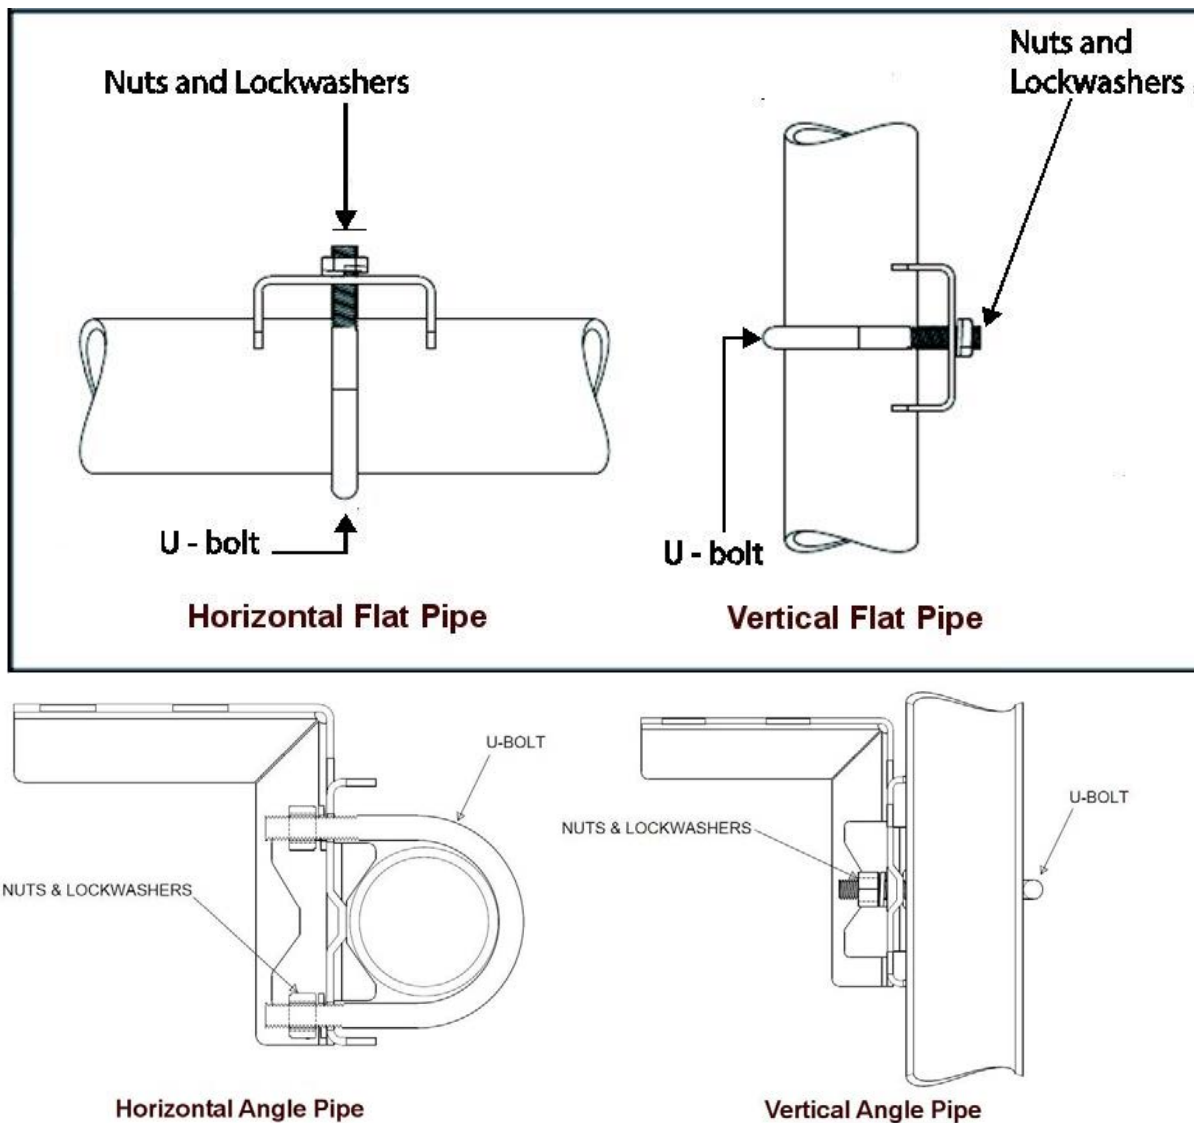

Figure 10 – Pipe Mounting Bracket Secured to a Horizontal or Vertical Flat Pipe and Angle pipe
1. Align the two mounting holes in the transmitter with the two slots in the mounting bracket and assemble the (2) M8 hex cap screws, (2) lockwashers and (2) flat washers provided. Rotate transmitter assembly to the desired position and torque the M8 hex cap screws to 27,0 Nm/20,0 Lb-ft maximum.
2. Pipe Mount Option: Refer to Figure 10. Position the bracket on a 2-inch (50.8 mm) horizontal or vertical pipe, and install a “U” bolt around the pipe and through the holes in the bracket. Secure the bracket with the nuts, flat washers and lock washers provided.